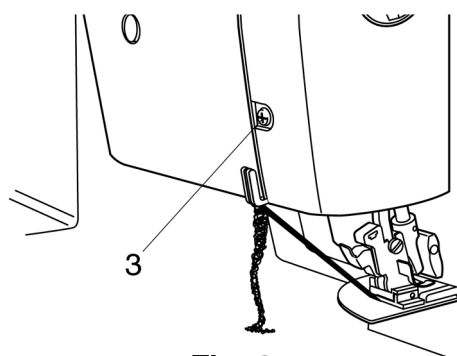

Fig. 3
- Unscrew the fastening screw 3 (fig. 3).